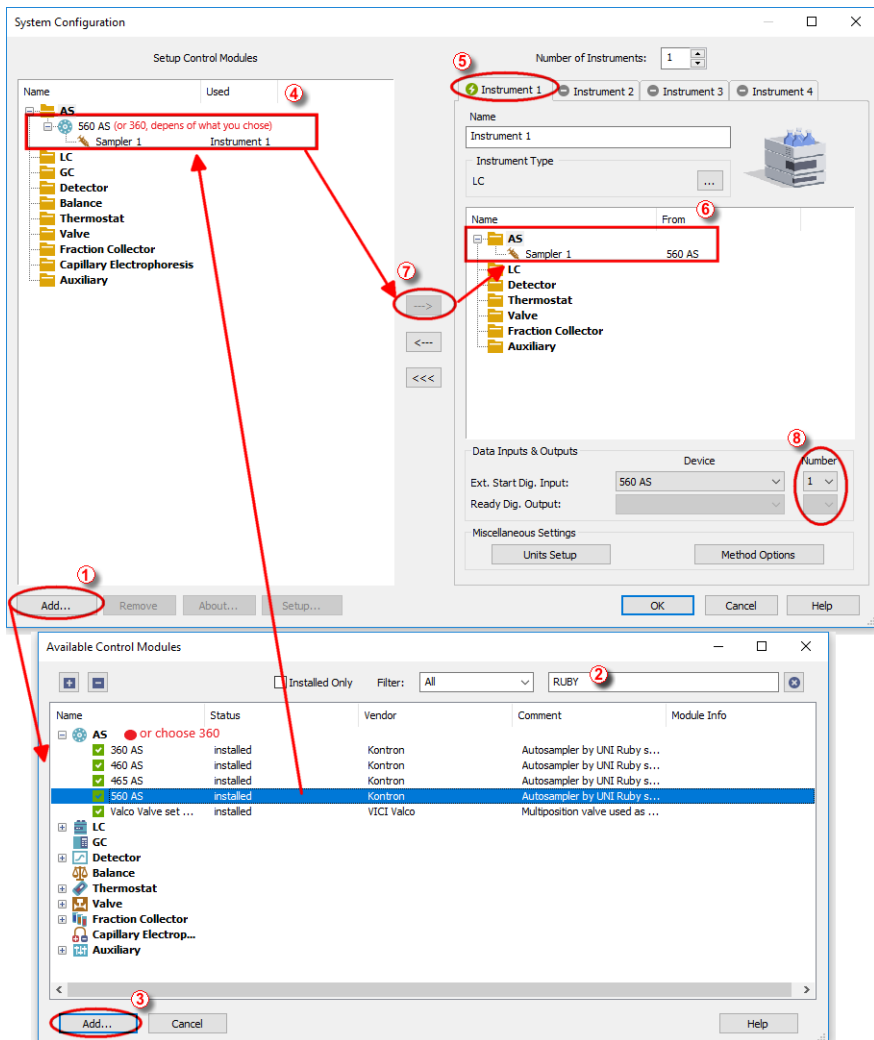

Fig 3: How to Add Kontron 360/560 module
- Press the *Add* button (① on **Fig 3** on pg 4.) to invoke the **Available Control Modules** dialog.
- You can specify the search filter (②) to simplify the finding of the driver.
- Select the correct item and press the *Add* (③ on **Fig 3** on pg 4.) button. Each device with already created UNI profile should have its own item named accordingly in the **Available Control Modules** dialog.